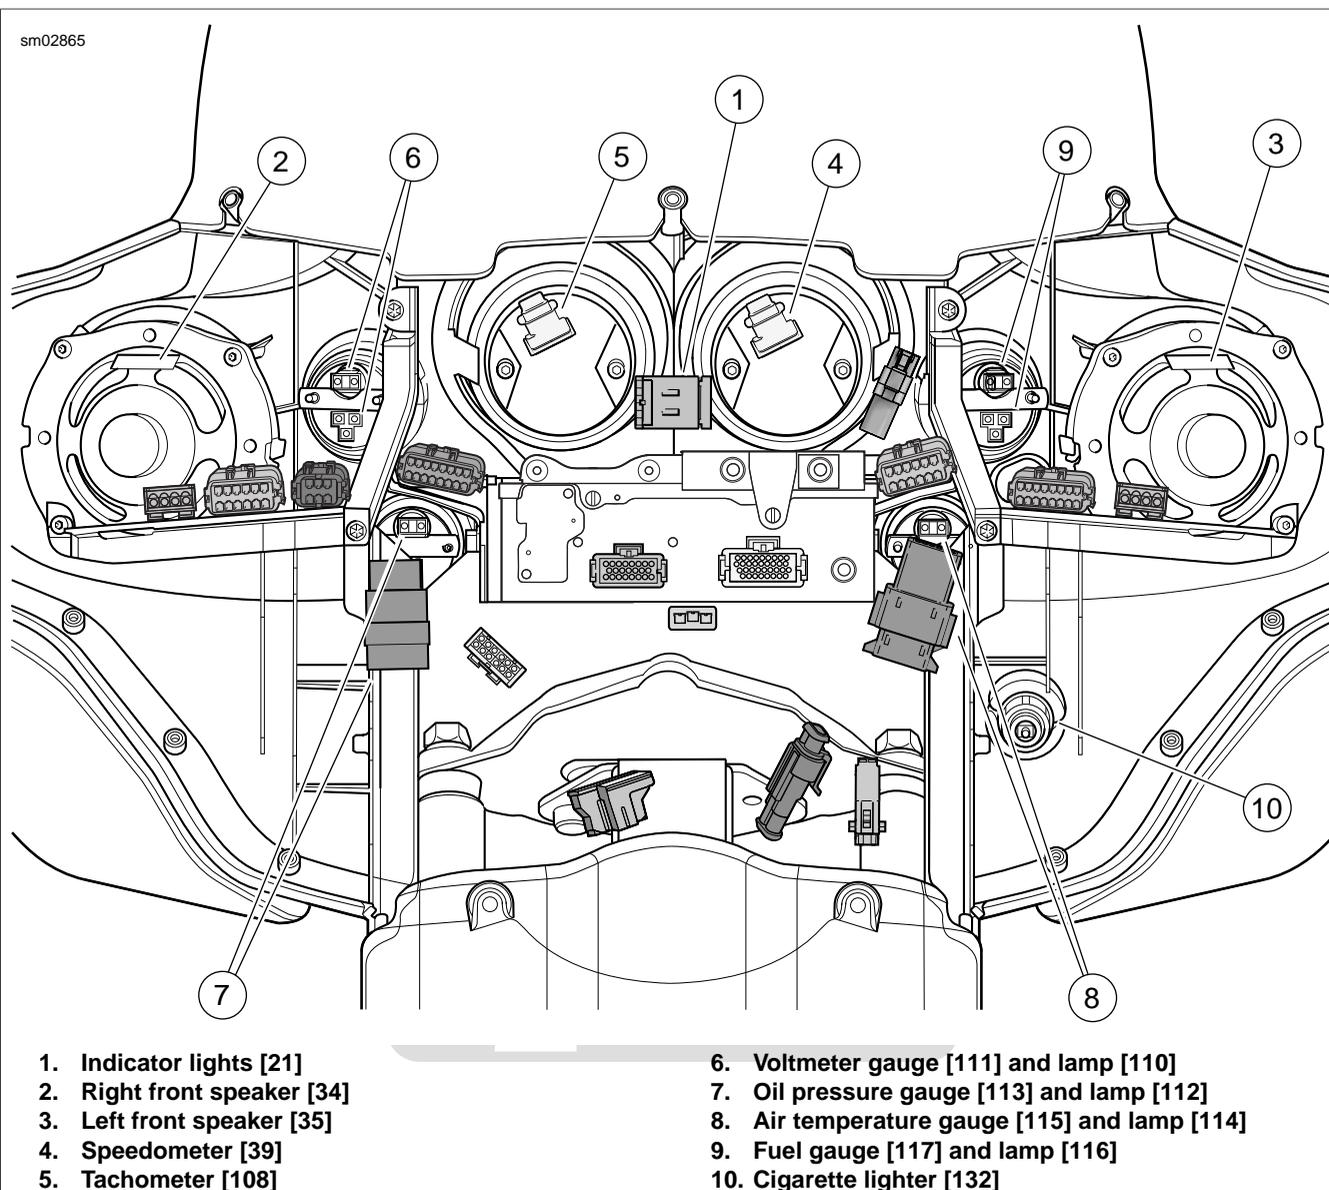

Figure 2-137. Inner Fairing Connectors (FLHX, FLHT/C/U)
11. See Figure 2-137. Remove cigarette lighter from socket. Pull socket terminals [132] from spade contacts on socket and outer shell. Holding socket to prevent rotation, unscrew outer shell. Remove socket from inner fairing.
14. Disconnect speedometer [39] and tachometer [108] gauge connectors. See Figure 2-137. Leaving anchors on interconnect harness installed in ears of brackets, if present, remove screws to release brackets from gauges. Remove gauges from inner fairing.
15. Disconnect indicator lights connector [21], 10-place Multi-lock. See Figure 2-137. Release each paddle on lens from between pair of index tabs on indicator lights assembly. Remove lens from inner fairing.